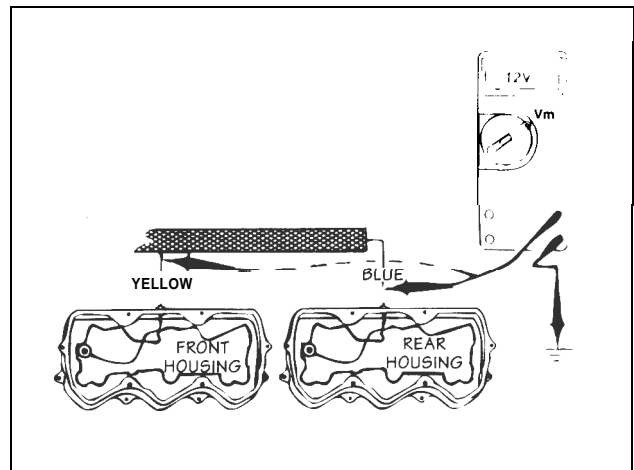

FIG. 1.1.16
**Correction:** If of the above procedures do not locate the problem, disconnect the wire harness at the engine brake spacers. Set the selector switch in HI, accelerator in low idle, cruise control switch off and clutch switch activated, both blue and yellow wires should read 12 volts (Fig. 1.1.16). Depressing the clutch should cause the voltage at each wire to drop to 0 volts. if these readings do not occur, replace the control module.